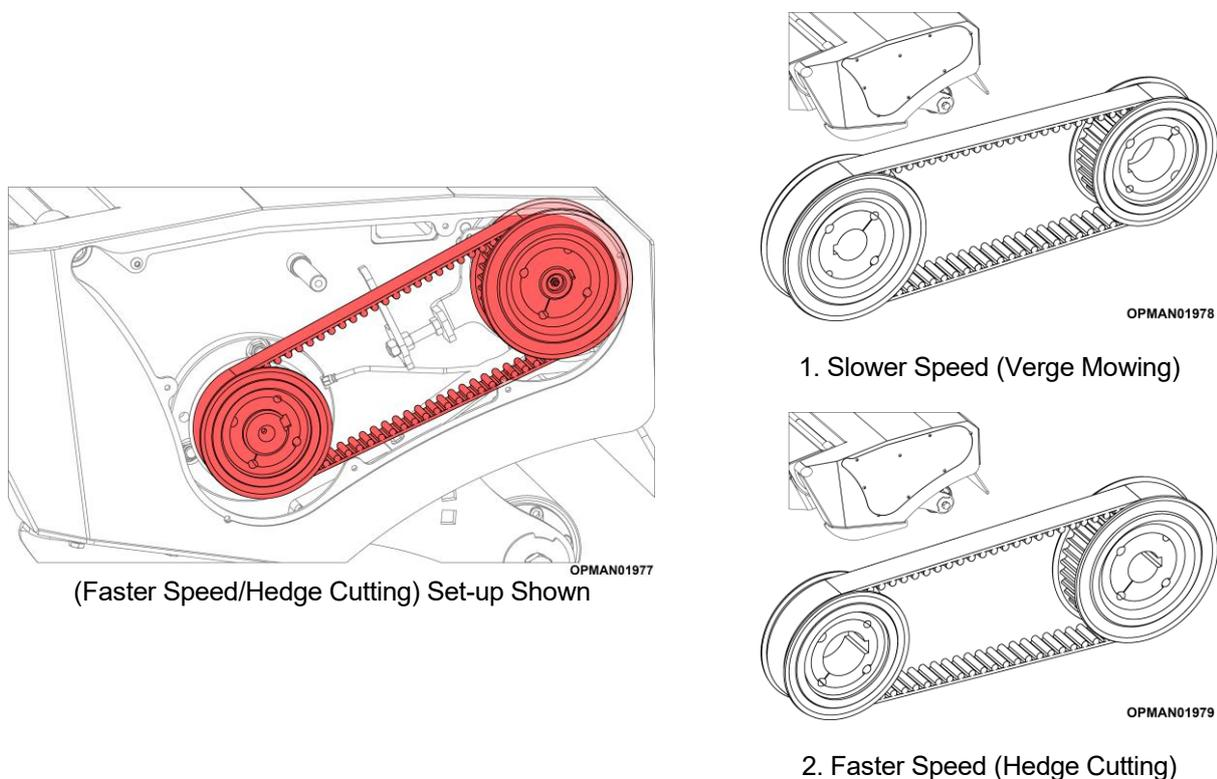

Figure 3.41
By configuring the pulleys so that the smaller pulley is on the input/motor, you will be able to get the slower rotor speed available for the Powerdrive Pro flail head attachment; see Figure 3.41 (1). Spearhead Machinery recommends this for verge mowing applications.